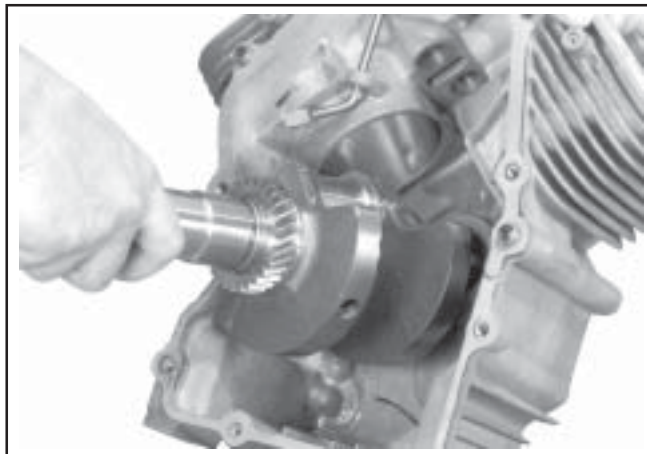

Figure 11-7. Installing Crankshaft.
1. Carefully slide the flywheel end of the crankshaft through the main bearing in the crankcase. See Figure 11-7.